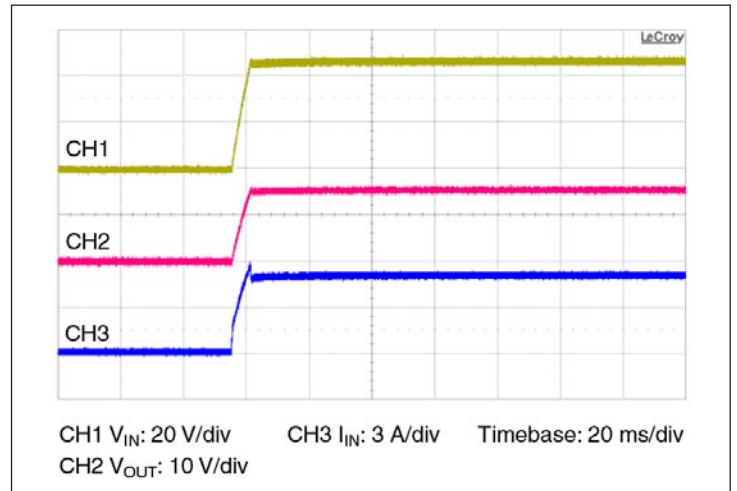

Figure 10 — Start up from application of V_{IN} ; VC pre-applied $C_{OUT} = 800 \mu F$
- Normal operation (VC applied prior to V_{IN}): In this case the controller is active prior to ramping the input. When the input voltage is applied, the VTM module output voltage will track the input (See Figure 10). The inrush current is determined by the input voltage rate of rise and output capacitance. If the VC voltage is removed prior to the input reaching 26 V, the VTM may shut down.